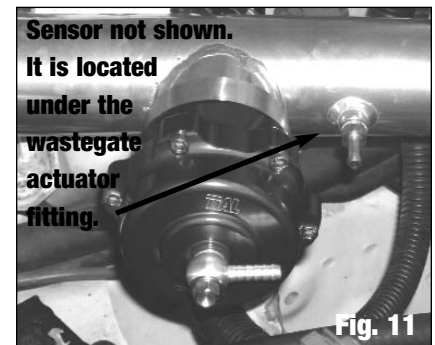

Fig. 11
6. Install the Blow-Off Valve onto the intake manifold inlet pipe. Make sure the O-Ring is properly seated on the Blow-Off Valve flange. Install the Blow-Off Valve and V-Band and tighten the V-Band. Install the supplied banjo fitting onto the Blow-Off Valve using the supplied sealing washers. Install a 1/4" barb to 1/8" NPT fitting (for wastegate actuator hose) into the hole next to the blow-off valve on the intake manifold inlet pipe (**See Fig. 10**). Install the CAT (Charge Air Temp) sensor in the threaded fitting under the wastegate fitting on the intake manifold inlet pipe (**See Fig. 11**). Use thread sealant on the threads of the sensor.